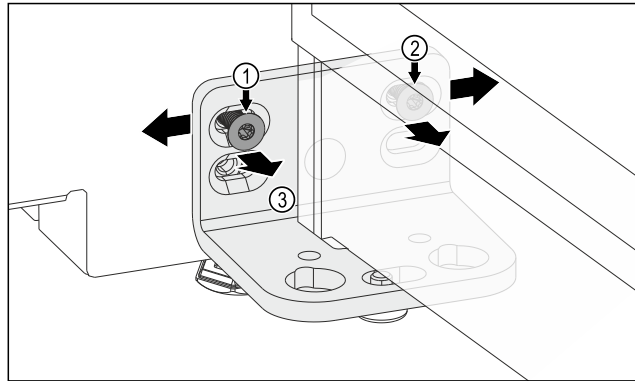

Fig. 13
- ▶ Tighten screw Fig. 13 (1) and loosen screw Fig. 13 (2). You will need a short angled screwdriver for the screw Fig. 13 (2).
- ▶ Move the door to the left with the hinge bracket Fig. 13 (3).
- ▶ Move the door to the right with the hinge bracket Fig. 13 (3).
- ▶ The door has reached its end position: Tighten screw Fig. 13 (1) and screw Fig. 13 (2).